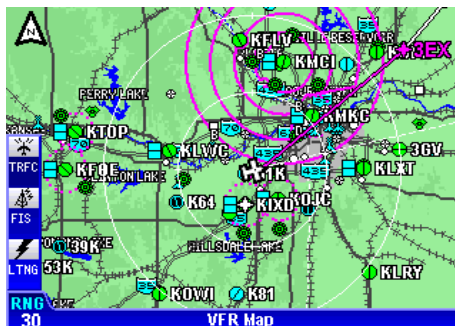

Figure 1-140
3. When the desired waypoint is displayed, press the **ACTIVATE** Softkey and the Map will again be displayed as in Figure 1-140. Note the Direct-To is now plotted from aircraft's present position to the waypoint.
If it becomes necessary to delete a Direct-To in an active flight plan (as seen in Figure 1-140), perform the following steps: